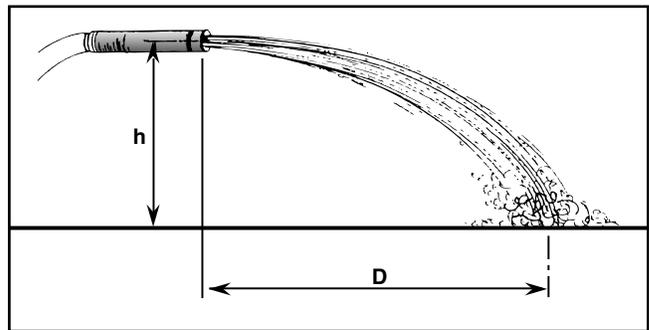

Figure C2—Relation of pipe exit to "h" and "D"
- D. Measure the distance ("D") along the ground from the end of the pipe to where the water hits the ground. At the time of the measurement, the hose must be running full of water. Let a plumb bob hang from the pipe exit down to the ground. Start measuring "D" at this point. (See figure C2.)